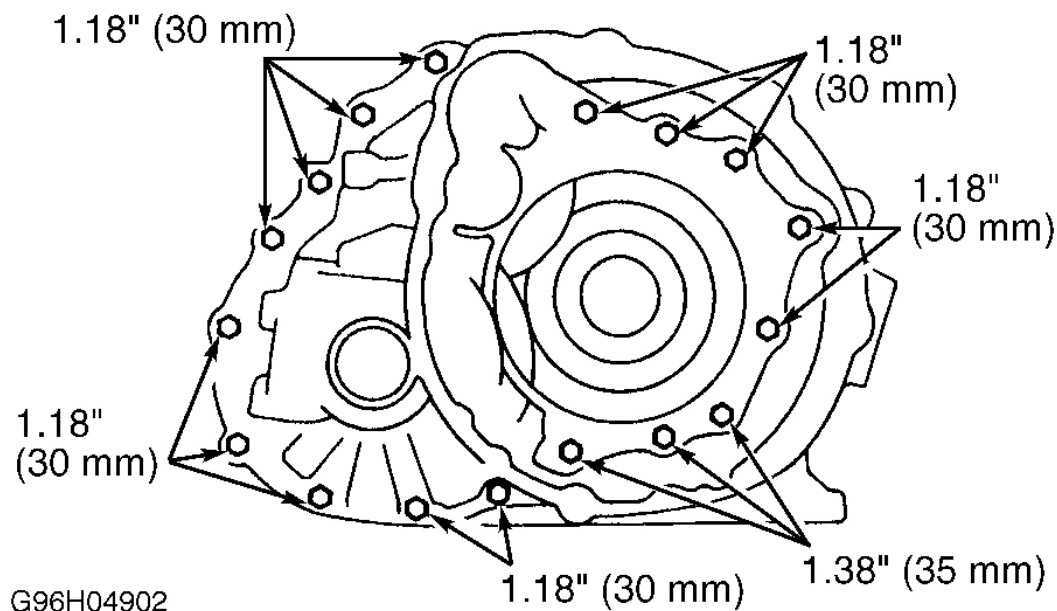
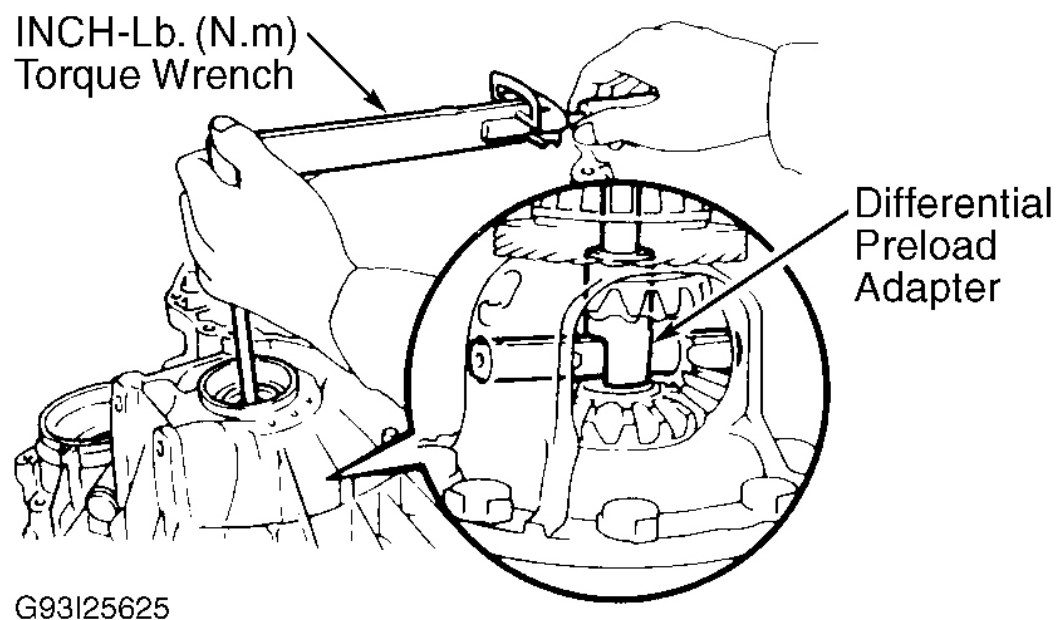

Fig. 50: Installing Transaxle Housing Bolts
Fig. 51: Measuring Differential Bearing Preload
4. Install differential in transaxle case. Install transaxle housing. Install bolts in correct locations and tighten bolts to 21 ft. lbs. (29 N.m). See **Fig. 50** . Measure differential bearing preload, using Differential Preload Adapter (09564-32011) and an INCH-lb. torque wrench. See **Fig. 51** .
30. Install differential. Install apply tube if removed. Apply gasket sealer (Three Bond 1281 or equivalent) to transaxle housing. Install transaxle housing. Install mounting bolts in original locations. Apply thread sealant to 1.38" (35 mm) bolt threads. See **Fig. 50**. Tighten bolts to 21 ft. lbs. (29 N.m). Check differential side bearing preload. See **DIFFERENTIAL** under COMPONENT DISASSEMBLY & REASSEMBLY.